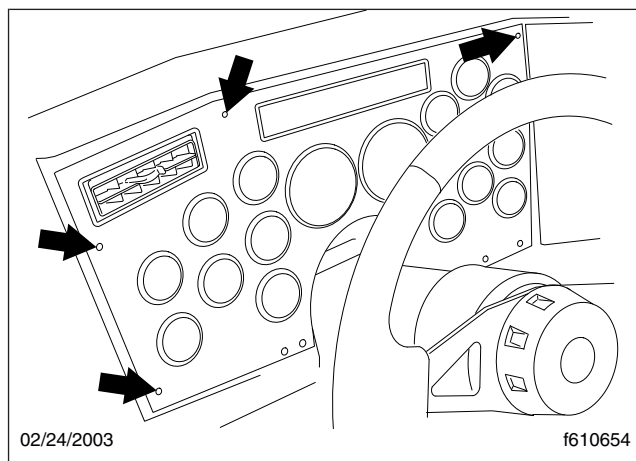

Fig. 3, Main Instrument Dash Panel Fasteners
9. Open the main instrument dash panel by removing the four fasteners. See Fig. 3. Tip the instrument panel forward to access the rear of the gauges.